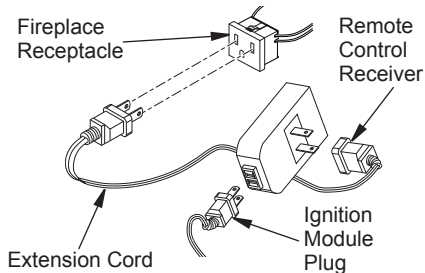

Figure 18 - Installing WRC Remote Receiver
- The WRC model receiver does not require a battery. Receiver can be installed by first plugging short extension cord into fireplace receptacle. Then plug receiver unit into extension cord. Finally plug ignition module plug into receiver unit (see Figure 18).